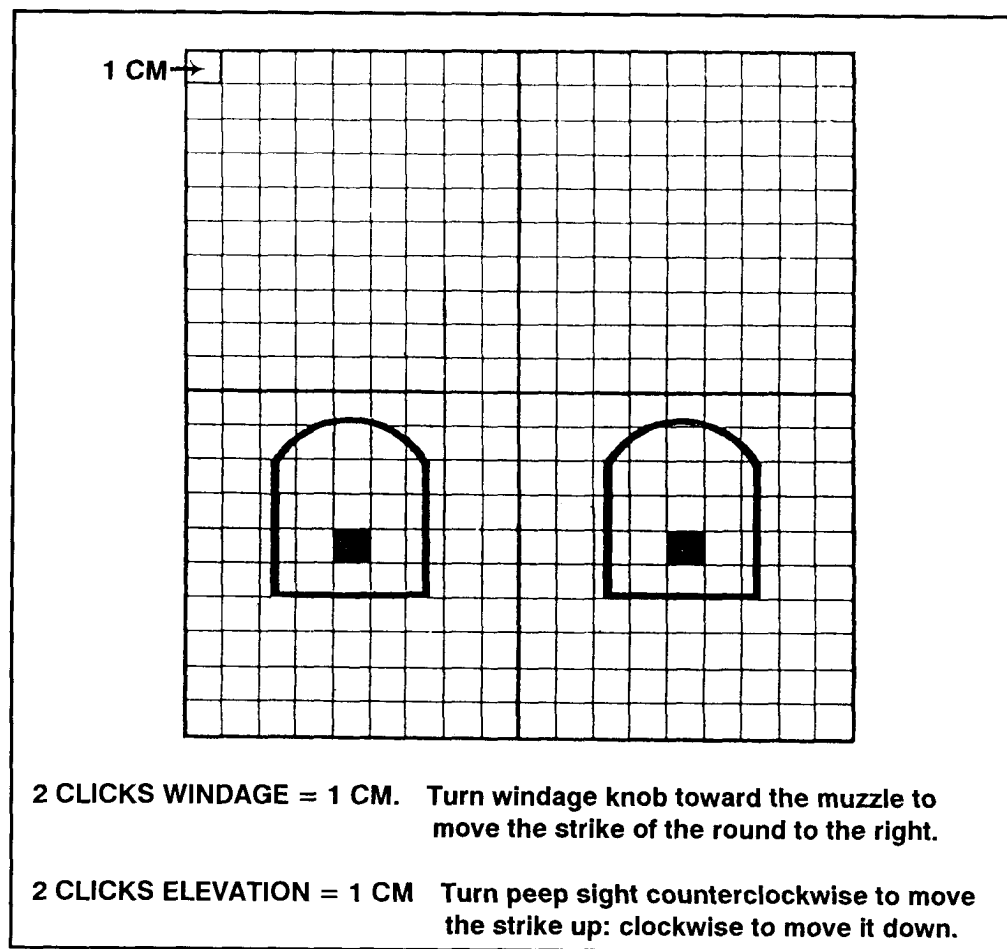

Figure 5-15. Grid square overlay.
c. **Grid Square Overlay.** This device assists the automatic rifleman in zeroing his weapon at 10 meters, while using the basic machine gun target (Figure 5-15). The grid square overlay is used the same as an M16 25-meter zero target, except the material can be made of plastic or view graph transparency. Each square is equal to 1 cm.